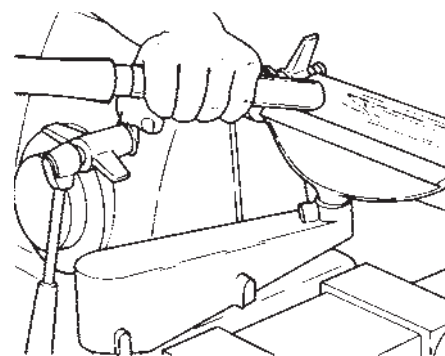

Figure C-44
- d. Feed the gouge into the stock and draw it back along the tool rest. Repeat this procedure until the stock is completely round. See Figure C-44. Turn off the MARK 4 [Shorty].